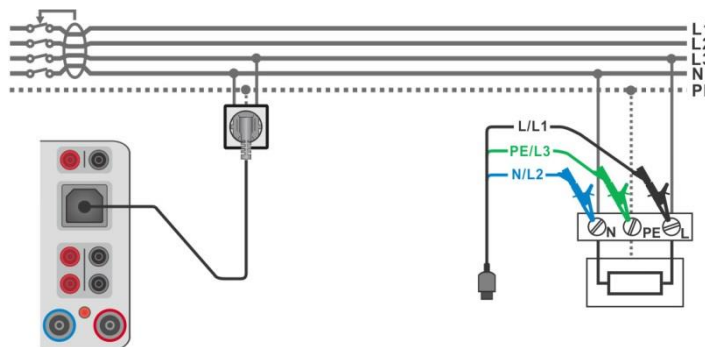

Figure 6.72: Connection of Plug test cable or 3-wire test lead
- ▶ Connect 3-wire test lead or Plug test cable to the object under test, see **Figure 6.72**.